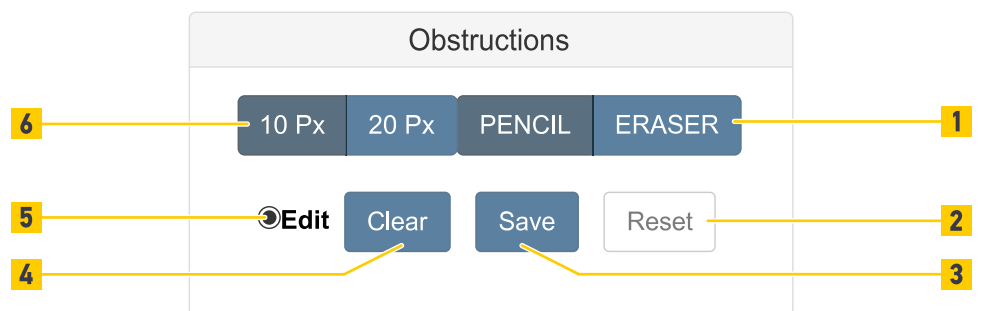

Fig. 86: Obstructions
- To mark obstructed objects in the live view activate the Edit button (Fig. 86 /5).
- To draw or erase marks in the live view click Pencil or Eraser button (Fig. 86 /1).
- To define the line width for drawing/erasing click 10 Px or 20 Px button (Fig. 86 /6).
- To go back to the last saved settings click the Reset button (Fig. 86 /2).
- To save all the settings in the device click the Save button (Fig. 86 /3).
- To erase all marks click the Clear button (Fig. 86 /4).